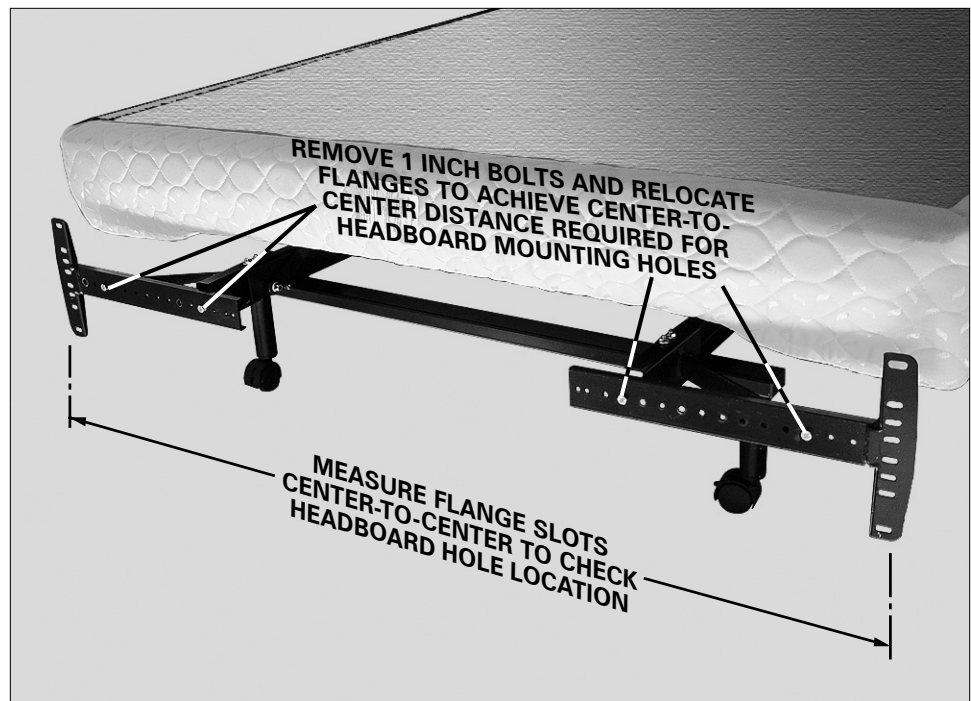

FIGURE 12: Headboard bracket measurement and adjustment to accept headboard.
g. Measure the center-to-center distance between the mounting slots of the headboard bracket flanges (**FIGURE 12**).
h. If bracket flange adjustment is required to accept the headboard, remove the 1 inch headboard bracket flange bolts and move flanges side-to-side for the adjustment (**FIGURE 12**). Reinstall bolts and tighten.